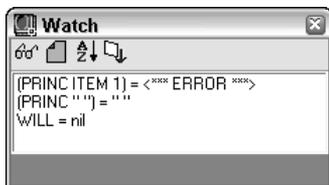

Figure 36-4: The Watch window shows an expression and a variable and displays their values.
4.  To add a variable to the Watch window, select the item to the right of the `FOREACH` function and choose `Add Watch` in the Watch window. The Watch window should look like Figure 36-4.